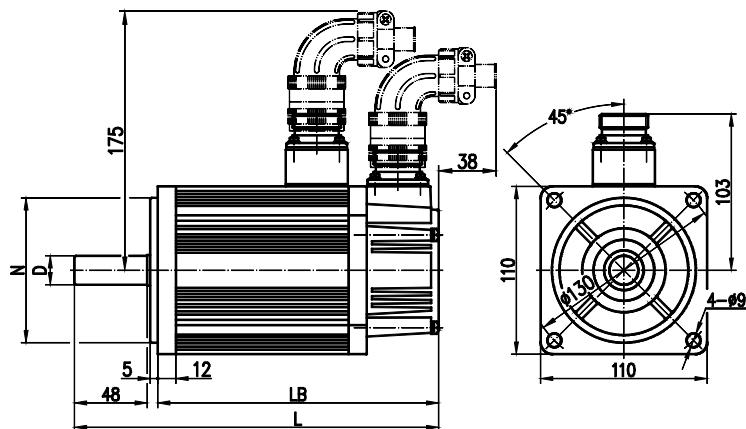

Fig. 2
5.2 Refer to figure 2 and list 8 about **110SJT** series motor overall installation dimension.